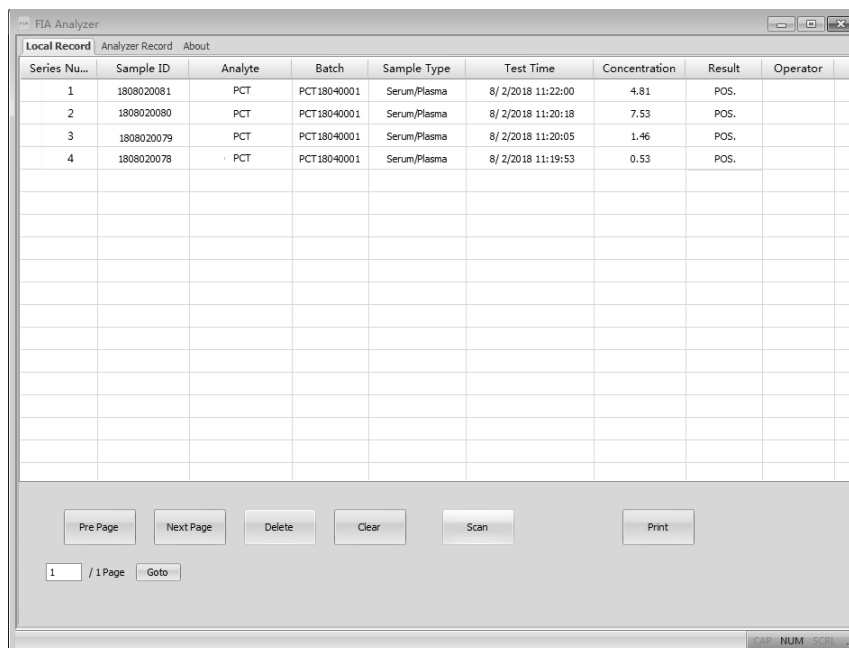

Fig 40
- **“Scan”**: Scan command would perform the same functions as pressing Test key or tapping new test on the analyzer. Place the test cassette, after sample addition (and buffer addition, if the method requires so) into the test card slot, and double click “Scan” command. (Same function as **Quick Test** mode in the analyzer), the test result will appear on the Local Record tab.(Ref Fig 40)